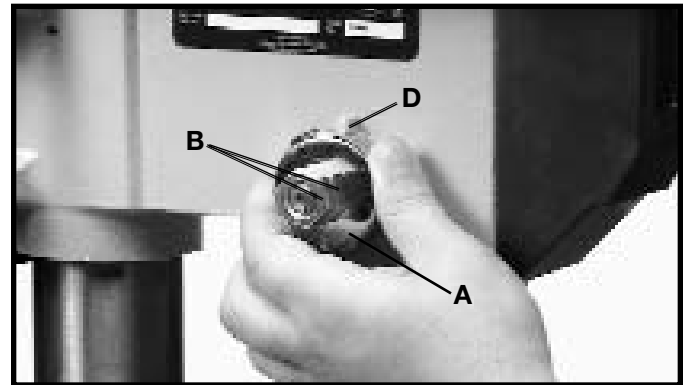

Fig. 28
3. While firmly holding spring housing (A) Fig. 28, pull out housing and rotate it until the boss (D) is engaged with the next notch on the housing. Turn the housing counter-clockwise to increase and clockwise to decrease spring tension. Then tighten the two nuts (B) to hold the housing in place. **IMPORTANT:** Inside nut (B) should not contact spring housing (A) when tight.